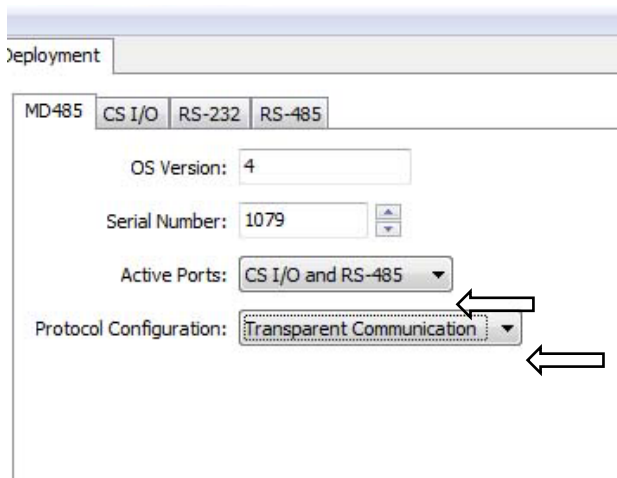

FIGURE 8-8. MD485 Deployment tab
4. Click the **MD485** tab. Select **CS I/O** and **RS-485** in the **Active Ports** box. Select **Transparent Communication** in the **Protocol** box (FIGURE 8-8).